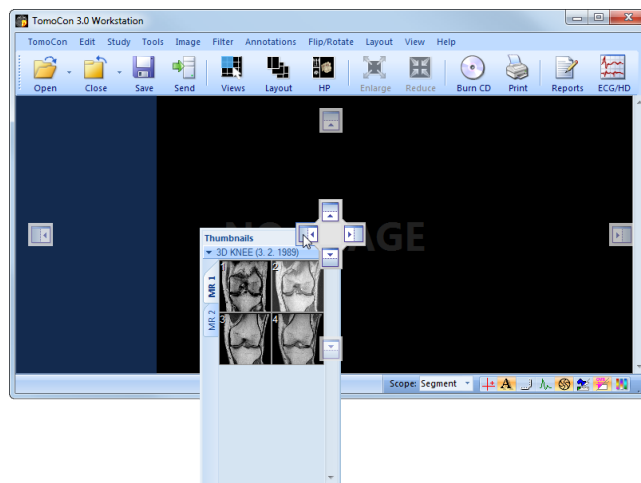

Figure 24 – Docking thumbnails palette to left side of TomoCon
2. Move the panel over the left docking navigator . A new docking position for the thumbnails palette will be displayed in translucent blue (see Figure 24).